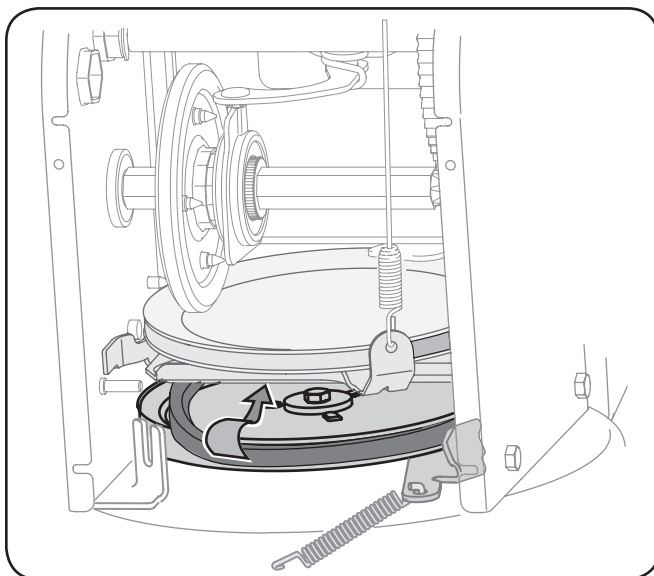

Figure 7-6
8. Remove the belt from around the auger pulley, and slip the belt between the support bracket and the auger pulley. See Fig. 7-6.